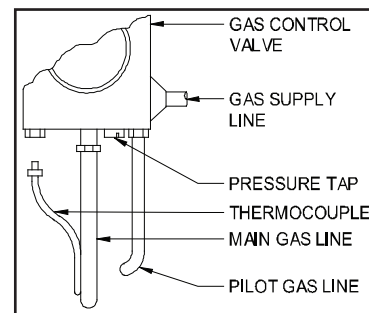

Figure 5
1. Remove pressure tap plug in gas valve. (See Figure 5) **NOTE:** If installing on an existing appliance, shut off gas supply to gas valve before plug removal.
1. Remove the thermocouple from the gas control valve. (See Figure 5)